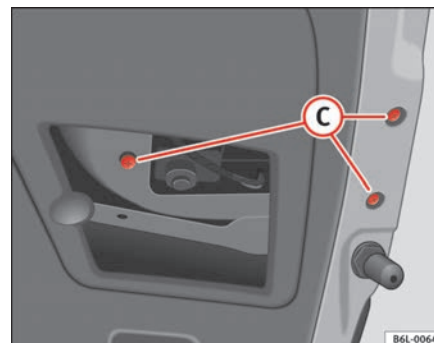

Fig. 162 Rear light on tailgate
- Extract the bolts **(C)** ⇒ page 226, fig. 162 and disconnect the connector.